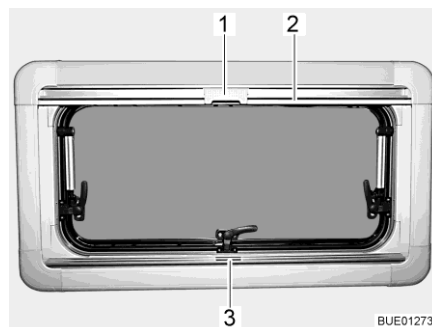
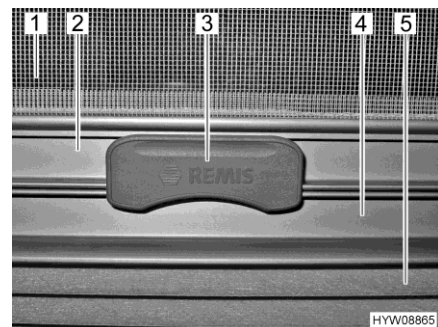

Fig. 41 Hinged window
Fig. 42 Catch
The Roman shade (Fig. 42,5) is located in the lower blind box.
- Seize the Roman shade by the centre of the holding bar (Fig. 41,3 and Fig. 42,4), pull it from the bottom to the top and release it at the desired height. The Roman shade will stay at this height.
**Insect screen** The insect screen (Fig. 42,1) is located in the upper blind box.
- Pull the insect screen down by the holding bar (Fig. 41,2 and Fig. 42,2), until it touches the holding bar of the Roman shade (Fig. 42,4).
- Clip the catch (Fig. 41,1 and Fig. 42,3) on the insect screen into the holding bar of the Roman shade. When the catch is locked, the Roman shade and the insect screen can be adjusted together.
- Push the catch (Fig. 42,3) on the insect screen upward.
- Move the insect screen back slowly on the holding bar (Fig. 41,2).